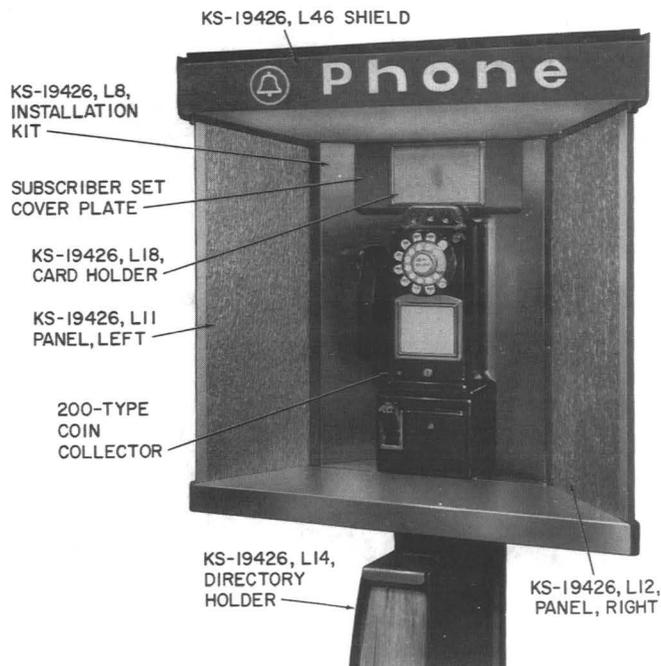

Fig. 11—KS-19426 Mounting Using 200-Type Coin Collector
**2.18** The 200-type coin collector, plus 685-type subscriber set, also may be used with KS-19426 mounting but requires a List 8 installation kit. This kit consists of mounting screws, 685-type subscriber set adapter, left and right side shrouds, bottom plate, and subscriber set coverplate (Fig. 11).